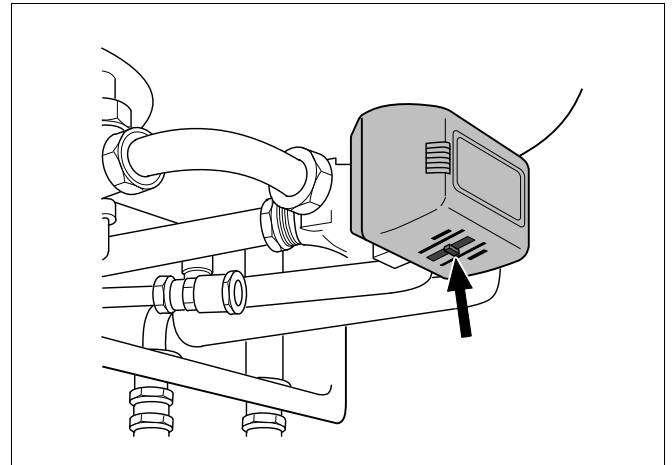

fig. 2 Mechanical switch on the three-way valve
- Move the mechanical switch on the three-way valve to centre position (fig. 2) (applicable for 24T25 and 29T25 only and systems with an external storage-type water heater).